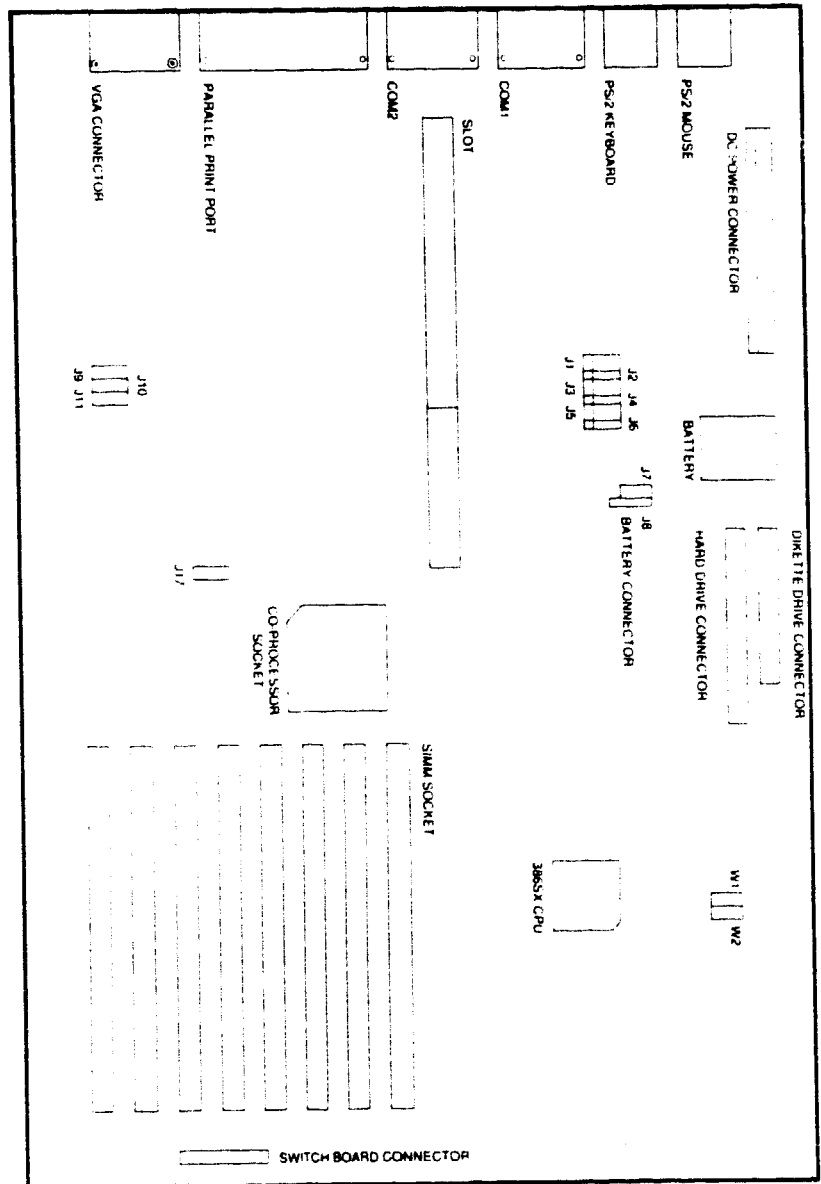

Figure 6.2: Motherboard Layout
The CPU inside your DECpc 320sxLP/325sxLP computer should give enough power for most applications. Certain mathematically intensive applications such as CAD, large databases or spreadsheets, or complex graphics, would benefit from the installation of a math coprocessor, a dedicated number crunching chip that greatly speeds up calculations. The motherboard of your computer comes with a socket for a math coprocessor, the location of which is shown in Figure 6.2
- 1 With the help of the motherboard diagram in Figure 6-2, locate the coprocessor socket on your motherboard.